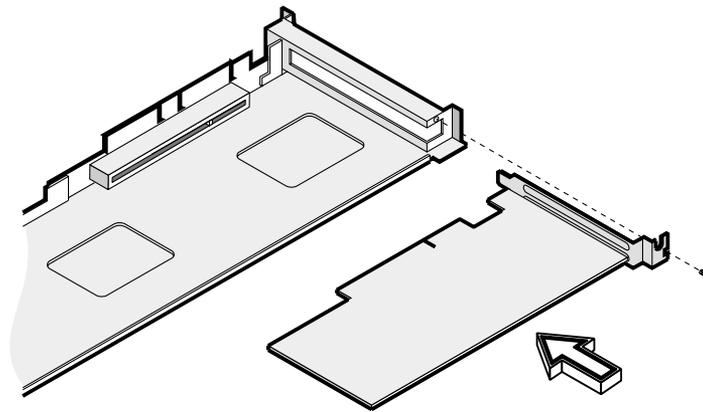

Figure 2-9 Inserting the Expansion Card into the Riser Card
4. Insert the expansion card into the riser card PCI slot by pushing the expansion board until it is properly seated. Then secure the expansion board to the metal bracket with a screw, as shown in Figure 2-9.